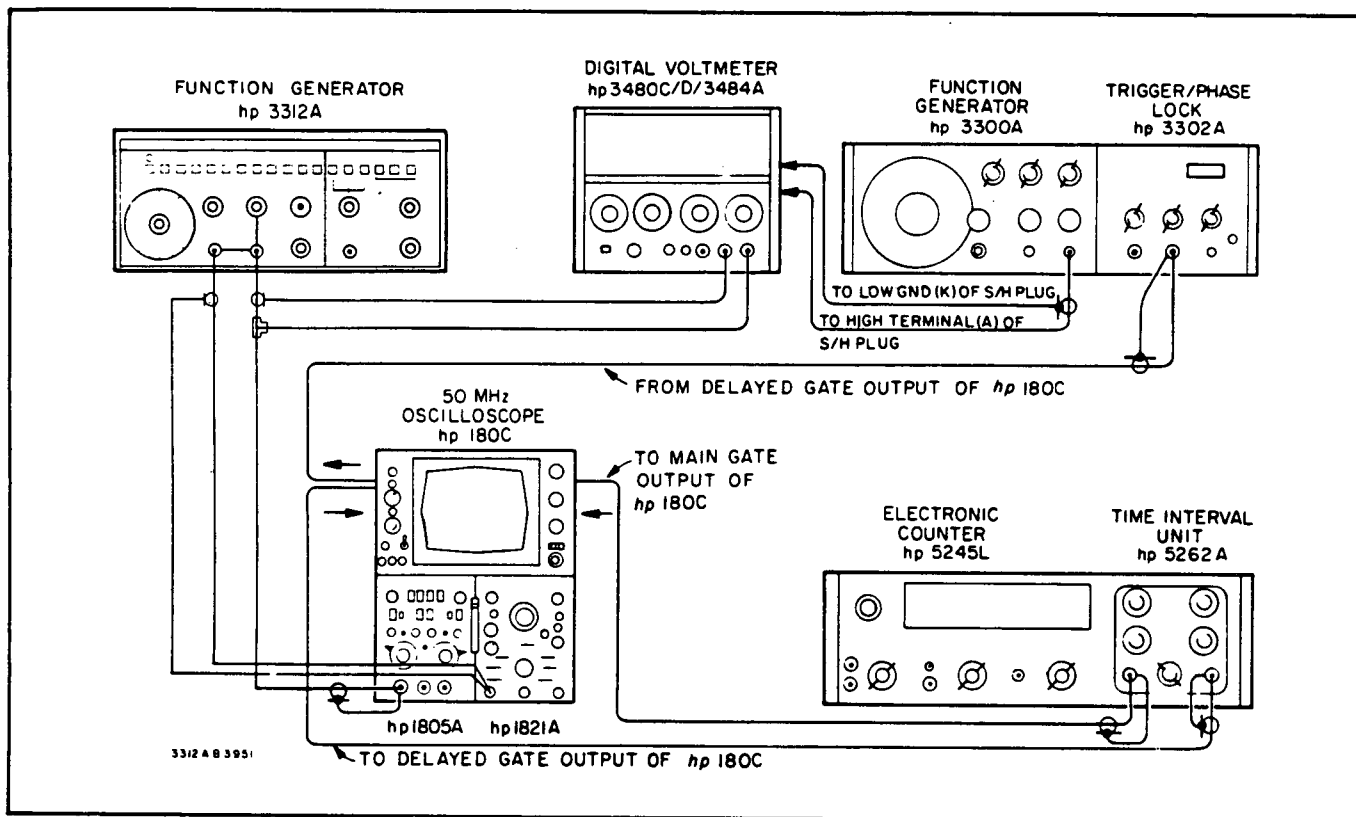

Figure 5-3. Triangle Linearity Test.
- c. Connect the equipment as shown in Figure 5-3.